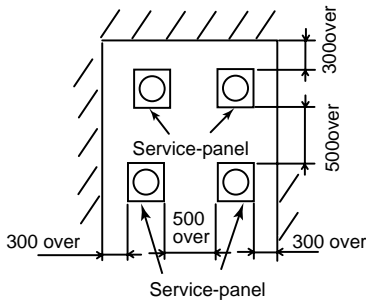

Fig 3
(2) Relation of unit when many set up unit. (Fig 3,4)